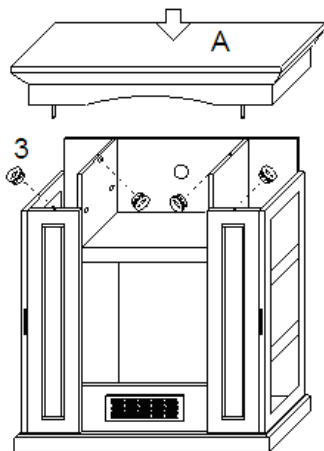

**Fig. 9**
Step 8: Attach 4 Hinges (1) to the Left & Right Doors (L & M) using 8 Large Mounting Screws (5). See Fig.9.